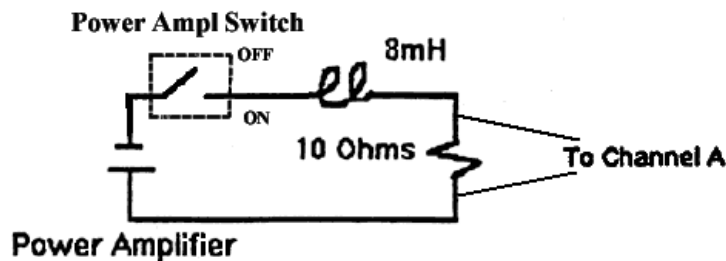

Figure 3: *RL* Circuit
1. Connect the circuit as shown in Figure 3.